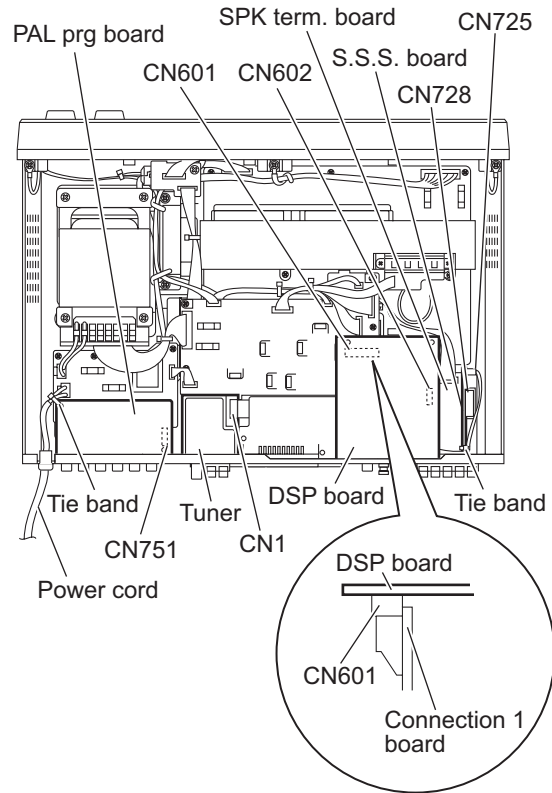

Fig.7
3.1.4 Removing the tuner (See Figs. 7 and 8)
- (1) From the top side of the main body, disconnect the card wire from the connector CN1 on the tuner. (See Fig.7)
3.1.5 Removing the PAL prg board (See Figs. 7 and 8)
- (2) From the top side of the main body, remove the tie band fixing the power cord. (See fig.7.)
After reassembling, fix the power cord with a new tie band as before. (See Fig.7.)
- (3) Take out the PAL prg board and disconnect the card wire from the connector CN751 on the forward side of the PAL prg board. (See Fig.7)
3.1.6 Removing the DSP board (See Figs. 7 and 8)
- (2) From the top side of the main body, disconnect the connector CN601 on the DSP board from the connection 1 board. (See Fig.7)
- (3) Take out the DSP board and disconnect the card wire from the connector CN602 on the forward side of the DSP board. (See Fig.7)
3.1.7 Removing the S.S.S. board (See Fig 7)